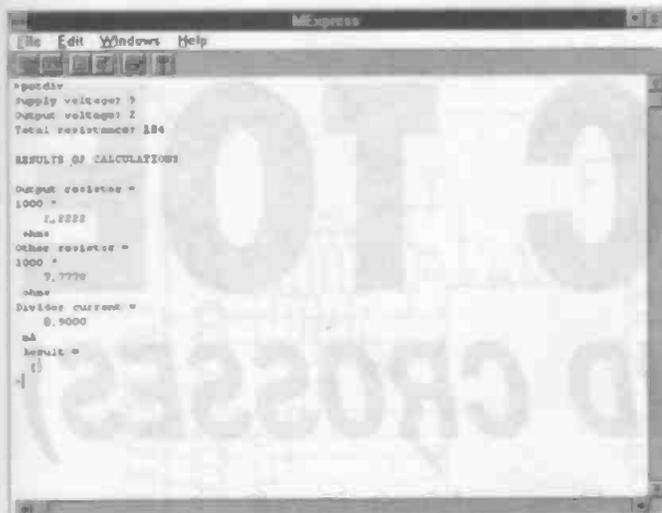

Figure 4: the results of a calculation using the potdiv routine
**Figure 4** shows the outcome when, back in MExpress, we type the file name 'potdiv' and press Enter. We are asked to enter the values of input and output voltage and also the intended total resistance of the chain. The displayed results show that the output resistor should be 2.2k and the other resistor 7.8k. Probably the nearest E24 value, 7.5k? would be acceptable. Current through the network is 9mA. To recall the routine for another calculation, simply press the cursor 'up-arrow' key a few times until the original 'potdiv' command reappears at the prompt. Key 'Enter' and repeat the calculation with new values.